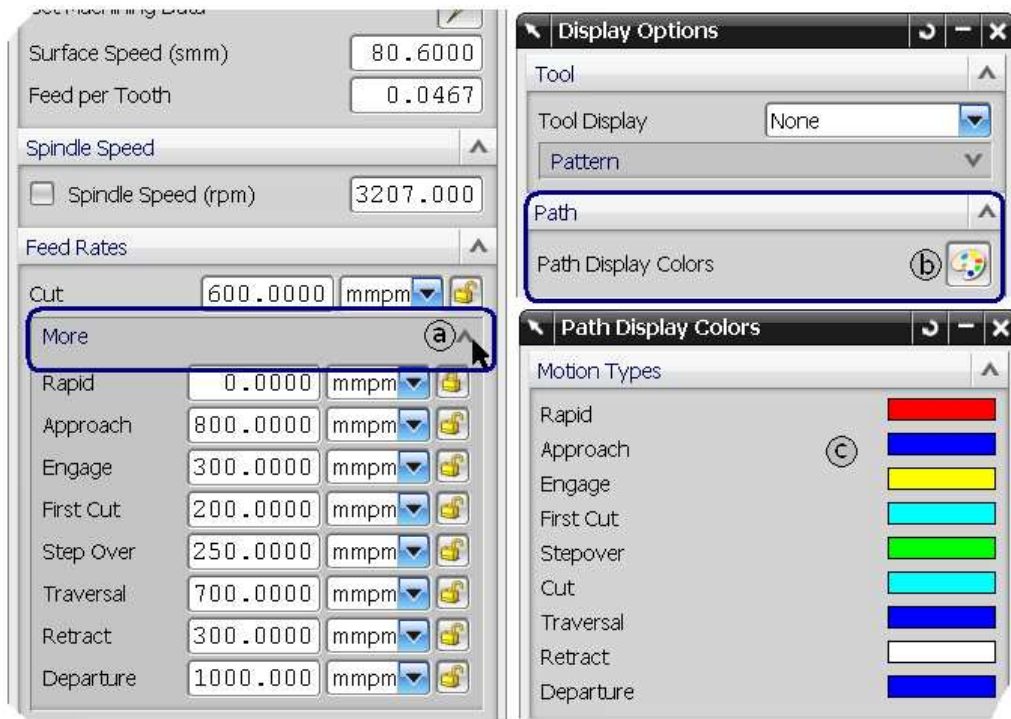

Figure 8.17. Table of feeds and colours
58. A dialog box appears. Here you can only see the default, filled value of the feed rate *Cut* in the *Feeds* group — figure 8.17.
59. If you cannot see other values of feeds, click on the *More* arrow — figure 8.17 (a).
- A dialog box will appear. Here, in the *Path* group, click on the *Path Display Color* icon — figure 8.17 (b).